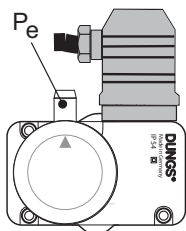

Figure 4.1 Pressure test point outlet (P_e)
4. Purge the gas supply by opening the screw at the pressure test point outlet on the low pressure switch until only gas flows out. See *Figure 4.1*.